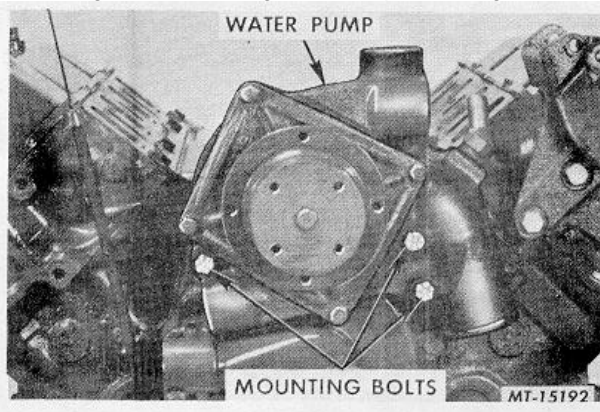

Fig. 24 Water Pump Removal
29. Loosen the three water pump mounting bolts and remove the water pump, Fig. 24.